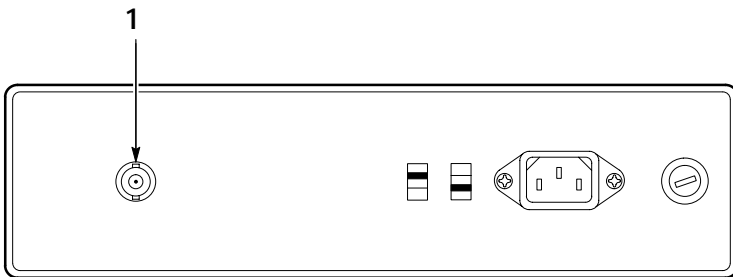

Figure 3: Rear Panel Signal Connections
The external control input (see Figure 3, item 1) provides remote control of two instrument functions: TOTAL and PULSE modes.